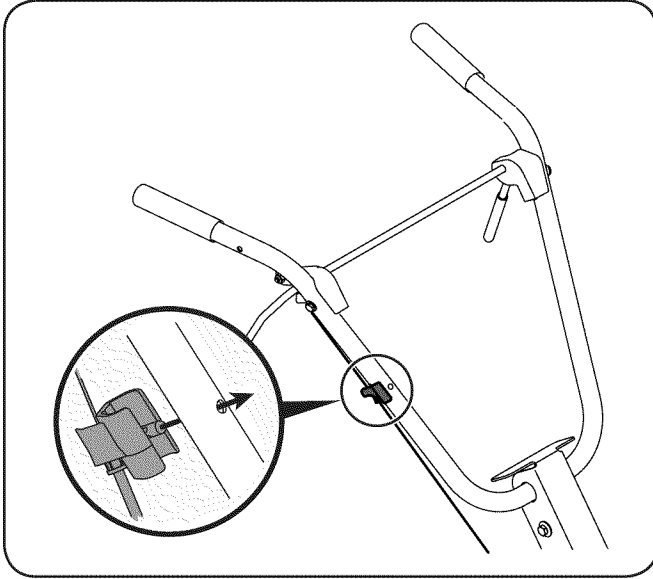

Figure 3-3
4. Insert the clutch cable handle fitting into the hole on the right side of the upper handle. See Fig. 3-3.